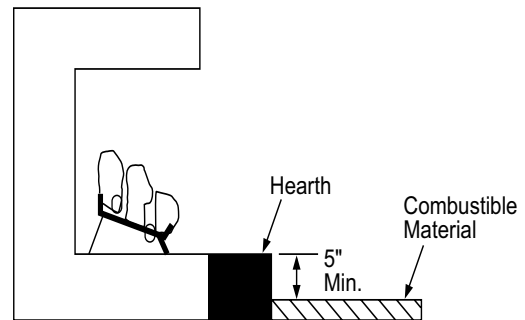

Figure 7 - Minimum Fireplace Clearances Above Combustible Flooring
- B. If combustible materials are less than 14" to the fireplace, you must install appliance at least 5" above the combustible flooring (see *Figure 7*).